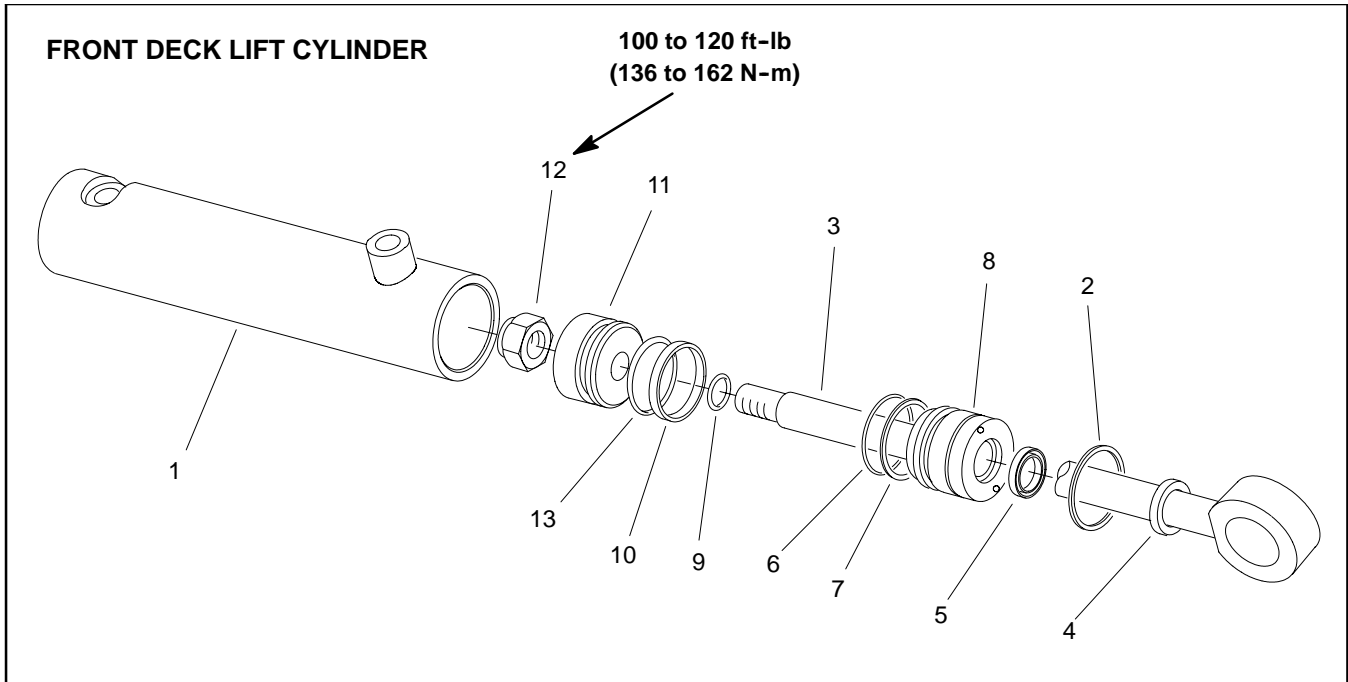
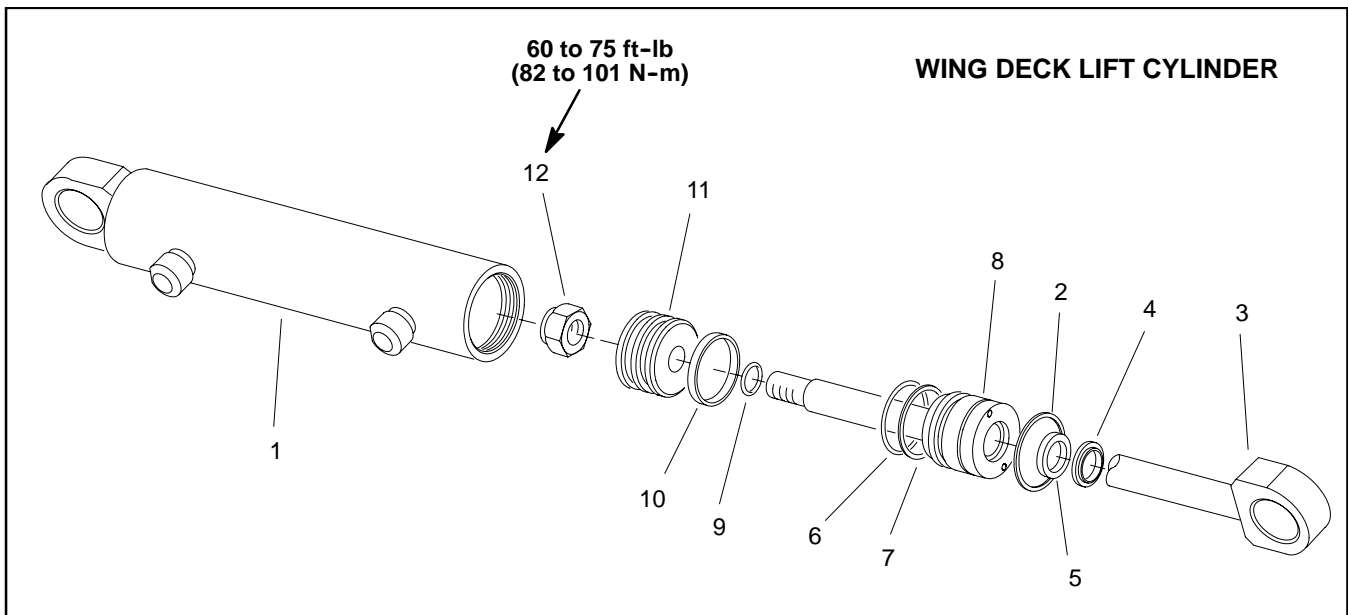

Figure 92
Figure 93
Disassembly (Figs. 92 and 93)
Assembly (Figs. 92 and 93)
C. Torque lock nut to specification in Figure 92 (front deck cylinder) or Figure 93 (wing cylinder).